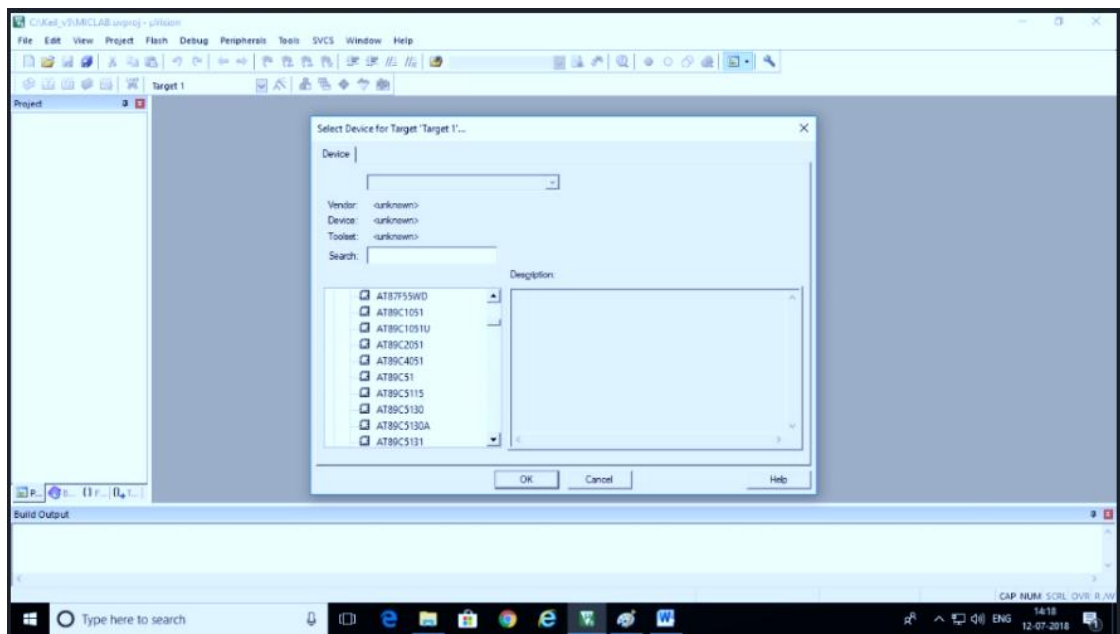

Figure 4.3: Selecting Target Device Window
4. “Select device for Target Target-1” window will open. It displays a list of manufacturers of microcontrollers. (refer Figure 4.3)